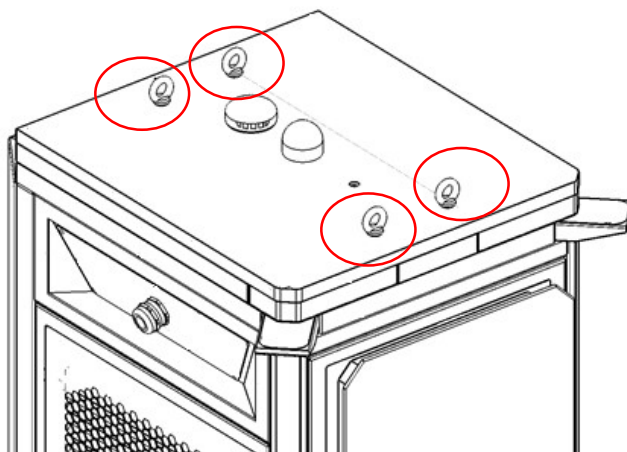

Figure 45 Transport sleeves
- The foundation slab (Fig. 45) should be made with flatness with a maximum deviation of $\frac{1}{4}$ " per 10f [2 mm/m UE] so that the station structure is not deformed.